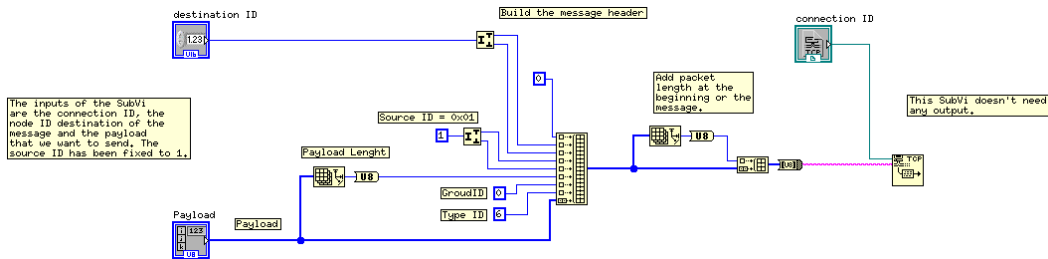

Figure 2.7: SubVi to send a message from the LabView to a mote.
Before sending the payload to the mote the header of the message should be built and added to the beginning of the payload as shown in the Figure 2.7. The final message (array of `UINT8`) has to include the following fields:
- `UINT16` Destination ID (node ID of the destination). It has to be separated into two bytes as shown in Figure 2.7. To broadcast the message use `0xFFFF`.